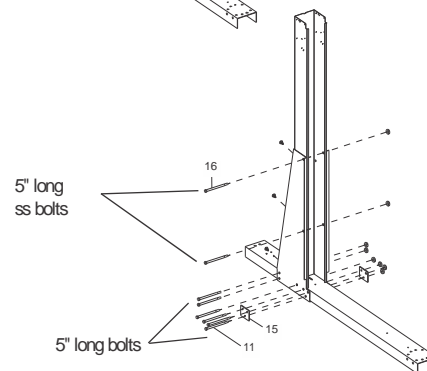

Fig. 14
D) All holes should be lined up at this point. Bolt the components together as shown in the diagram. Use 5/16" x 5" long bolts and 5/16" nuts for the channels, and 5/16" x 5" long stainless steel bolts for connecting the gussets to the uprights. Remember to include the three-hole plate at the fronts of the gussets. If these washers are left off your pool will break! See Fig.14 for visual instructions.